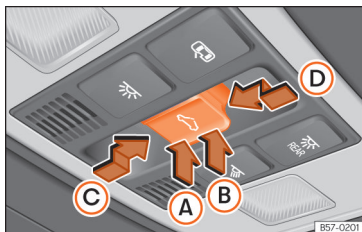

Fig. 148 On the interior roof lining: sunroof button.
The button **Fig. 148** has two levels. The first level switches the sunroof to the tilted position, opening or closing it fully or partially.
- *Sunroof*: within approximately 5 seconds of having activated the roll-back function, press the ↔ button »» Fig. 148 to the second level in the direction of arrow »» Fig. 148 ① until the sunroof closes completely.